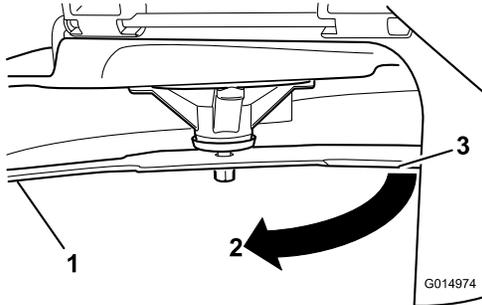

Figure 53
3. Second measured distance between blade and surface (B)
4. Rotate the same blade 180 degrees so that the opposing cutting edge is now in the same position (Figure 53).